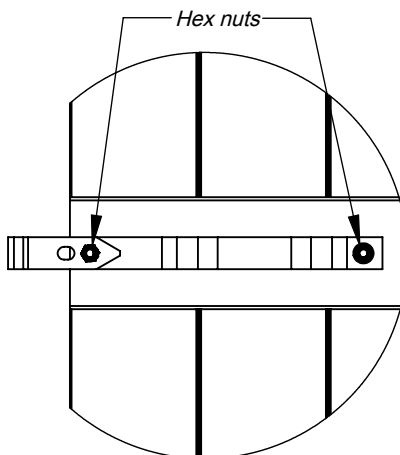

FIGURE 3
**Step 5** Tighten the two Hex nuts enough so that the handle is snug while still allowing the latch to rotate freely. (see figure 3)